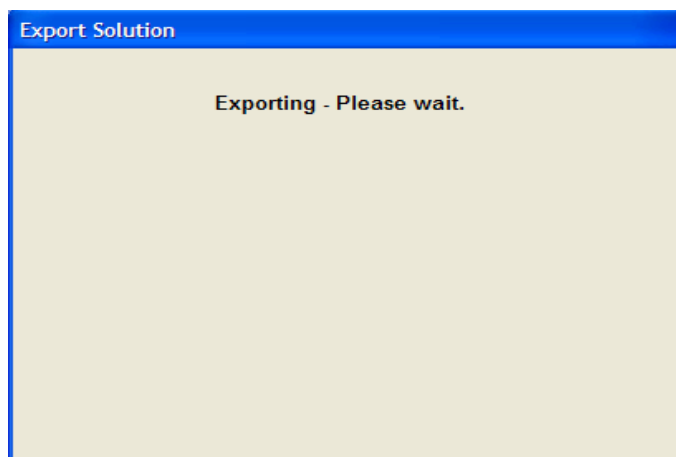

Figure 3-13. Please Wait – Exporting Project Window
2. Click on the OK button to start the export process. While BeeKit executes this, it displays the window shown in Figure 3-13, and the steps it takes scroll by in the Messages window pane.